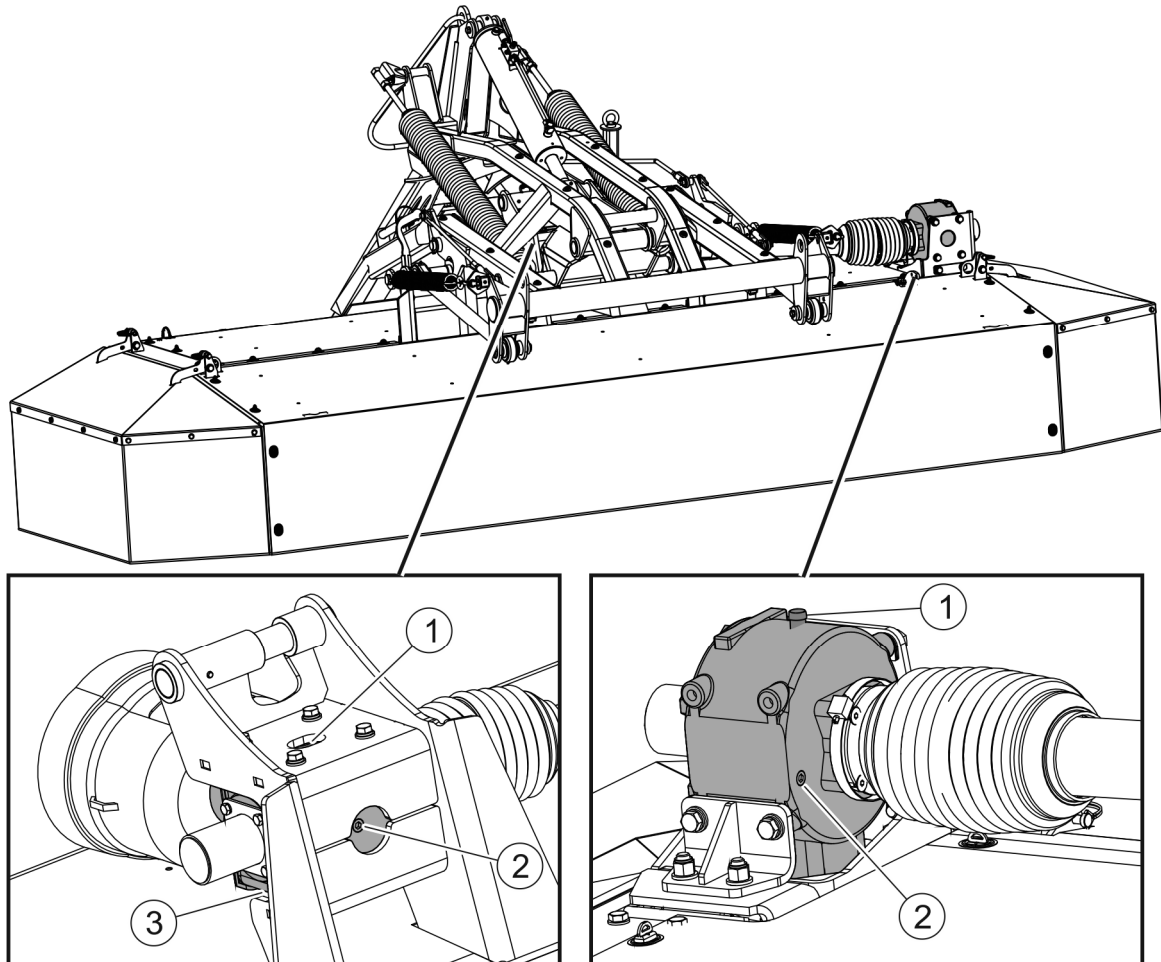

FIGURE 5.5 Inspection points of gears.
To check the oil level in bevel gears (FIGURE 5.5):
- unscrew the filler plug (1) (FIGURE 5.5),
- unscrew the drain plug (3), in the lower part of the bevel gear,
- tighten the drain plug (3),
- add oil until oil flows out of inspection plug opening (2), located on the side wall of the bevel gear.
- unscrew the inspection / filler plug (2), located on the side wall of the bevel gear.,
- suck used oil through the plug hole (2) into a leak-tight oil resistant container,
- add oil until oil flows out of inspection / filler plug opening (2).